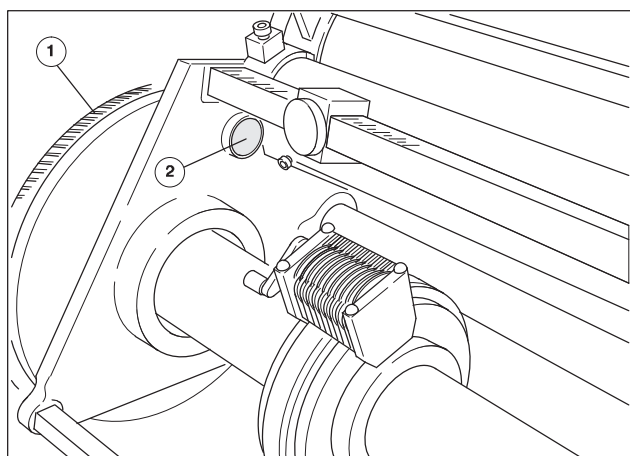

Fig. 12
1. turn back the brass screw (Fig. 12/2) up to stop.
2. Turn the drive gear (Fig. 12/1) until the latch engages at the gear.